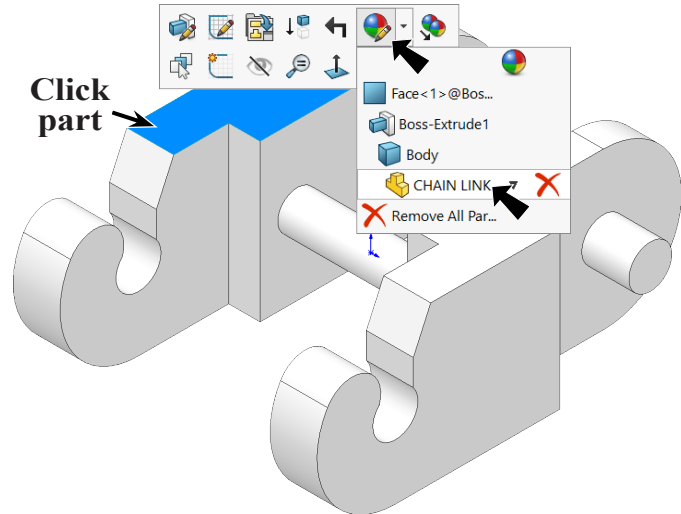

Fig. 41
Step 1. Click the **Chain Link** to select part, click **Appearances Callout** on the context toolbar and click **Chain Link..**, Fig. 41.